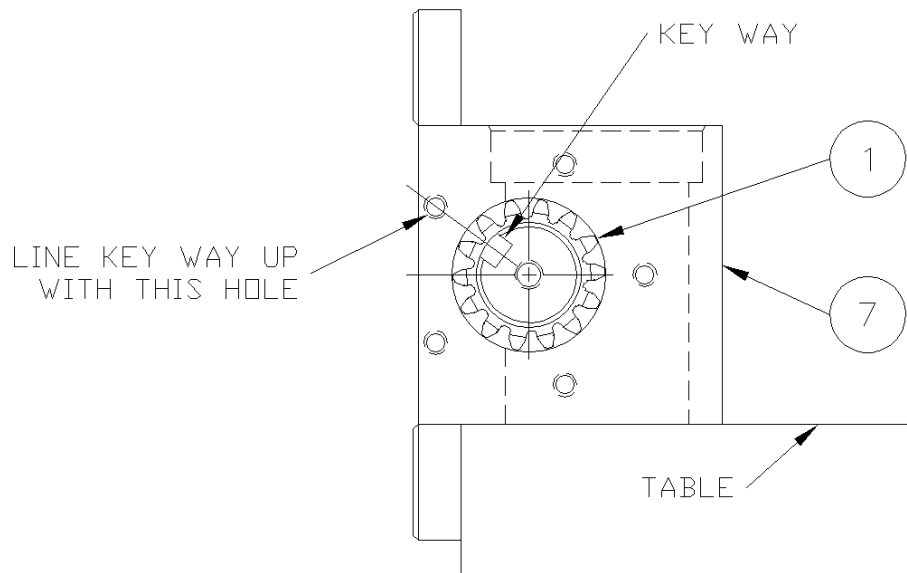

figure A-5
5. Place the actuator body (7) (fig. A-5) on the edge of the table, mounting flanges closest to the assembler with the counter-bores facing up. Insert the pinion shaft (1) through the bore on either side of the actuator body with the key ways facing back toward the mounting flanges and up away from the table with the center line of the key ways pointing toward the center of the tapped hole shown in figure A-5. Center the pinion in the actuator body.